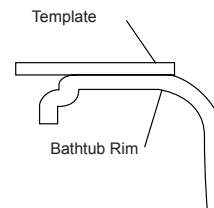

Figure 12 - Template Placement
- Position the template so that the desired undermount guidelines are aligned with the rim edge as shown (Figure 12).